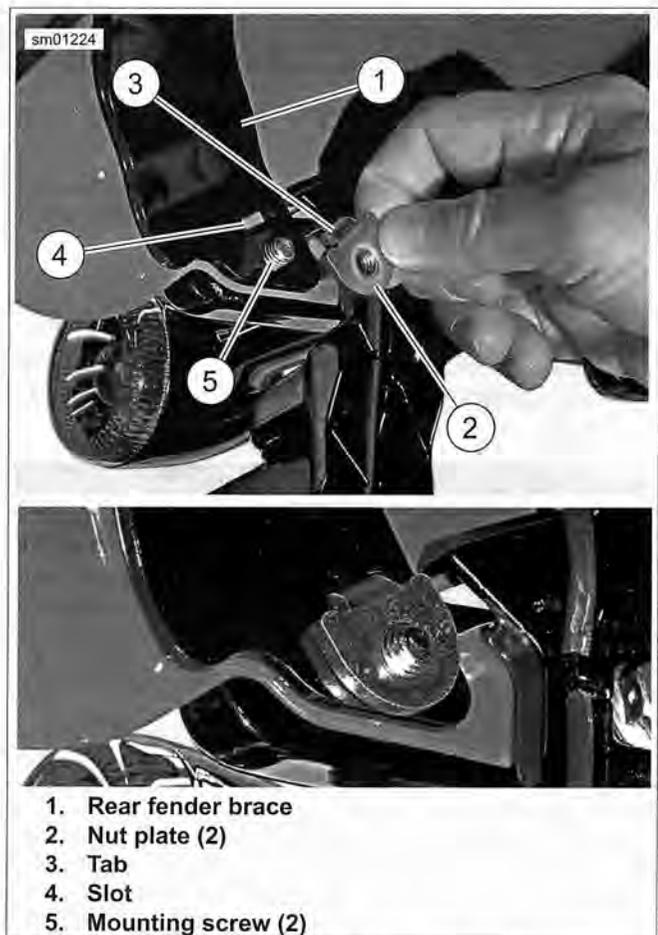

Figure 2-211. Rear Fender Nut Plate (Domestic Only)
8. Thread nut (6) onto each rear turn signal stalk finger-tight. Install two forward fender support screws with washers (2). Thread nut (4) onto each screw finger-tight.
10. Place rear fender brace (7) in position under fender and secure with screw and washer (9) finger-tight. Install two aft fender support screws with washers (3).
- b. **DOM Models:** See Figure 2-211. Install nut plate (2) on each mounting screw (5) finger-tight.
**DOM Models:** see Figure 2-211. Make certain that tab (3) on each nut plate (2) fits into slot (4) in fender brace (1) when securing nut plate with rearmost fender mounting screw (5).